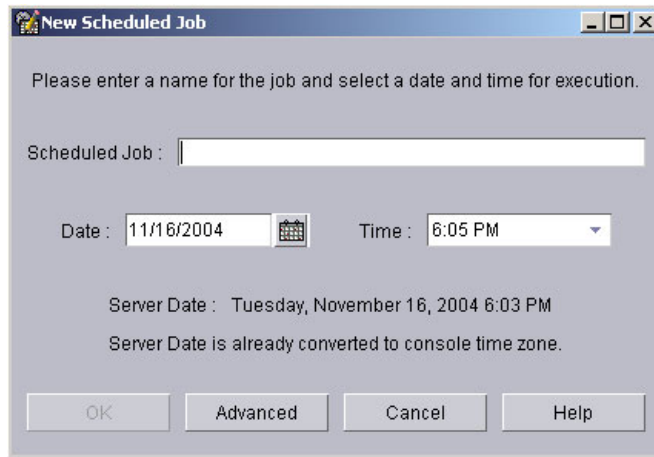

Figure 7-19 New Scheduled Job
19. If you clicked **Schedule** you will be presented with the window in Figure 7-19. Here you will enter the details of your new scheduled job.